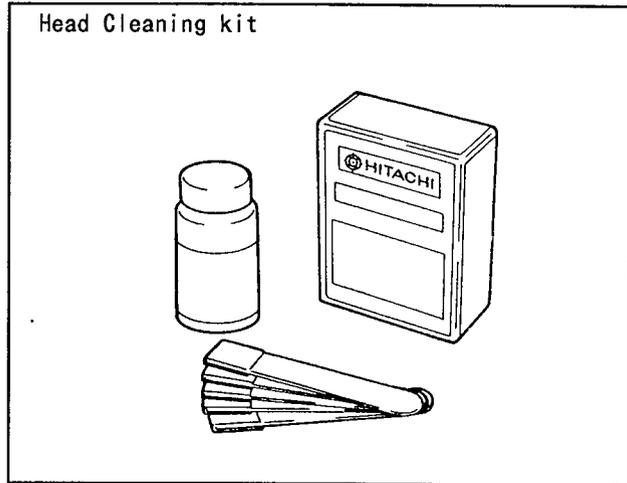

Fig. 2
- (1) Head cleaning kit (Fig. 2)